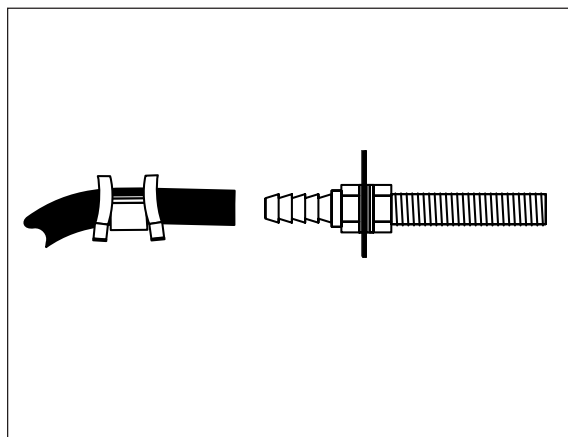

Figure 9
10. Slide air line clamp over the air line. Push air line onto fitting covering all barbs, with pliers slide the air line clamp forward until it fully covers the barbed section (Figure 9).
1. Select a location for the inflation valves in the rocker panel flange, or rear bumper, assuring that each valve will be protected and accessible with an air hose (Figure 9).
9. Slide a clamp onto the air line and push the air line over the fitting, covering all the barbs. With pliers slide the air line clamp forward until it fully covers the barbed section (Figure 9).